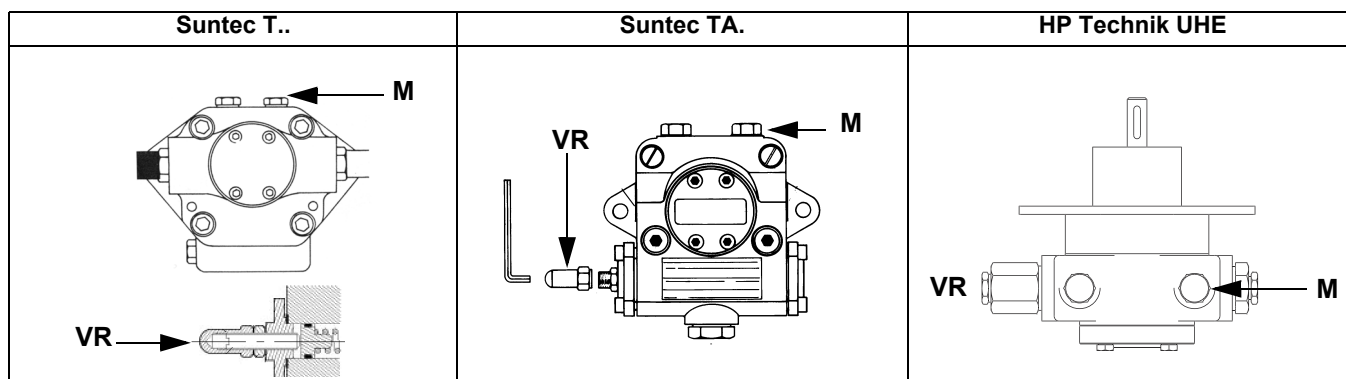

Fig. 14
- 3 bleed the air from the **M** pressure gauge port (Fig. 14) by loosening the cap without removing it, then release the contactor.
- 5 Only if necessary, adjust the supply pressure as follows (see related paragraph); insert a pressure gauge into the port shown on Fig. 15 and act on on the pump adjusting screw **VR** (see Fig. 14) as to get the nozzle pressure at 20bar (Monarch or Fluidics nozzles - see page 42-38).